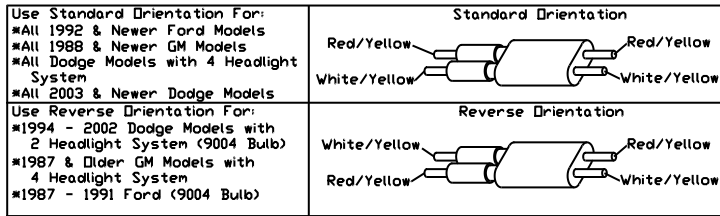

Figure 27. Vehicle Option Connector
32. Locate vehicle option connector. Align the connector so that the Vehicle Option Connector is positioned to match the vehicle it is installed on. This is illustrated in Figure 27.